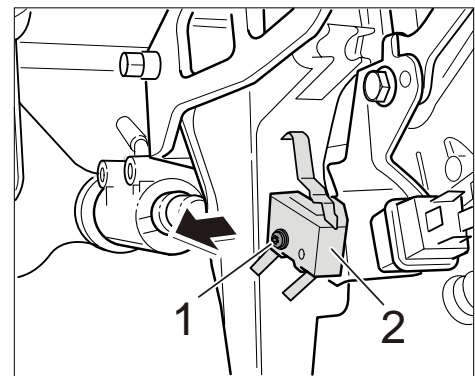

Figure 2
- 3.2 Unscrew fastening screw ⇒ *Figure 2 -1-* on the clutch pedal switch ⇒ *Figure 2 -2-* and remove the clutch pedal switch ⇒ *Figure 2 -arrow-*.